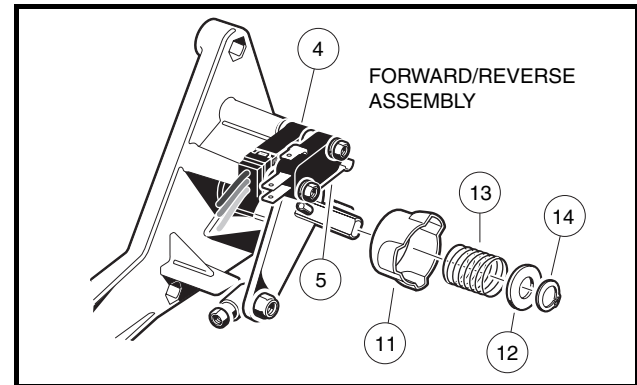

Figure 12-19 Neutral Lockout Cam
2. Connect the black wire to common (COM) terminal, the green wire to the normally open (NO) terminal and the white wire to the normally closed (NC) terminal of the neutral lockout limit switch (**Figure 12-19, Page 12-18**).
2. Remove the external snap ring (14) (**Figure 12-19, Page 12-18**).
3. Remove the plastic washer (12) and the spring (13).
4. Remove the cam (11).
1. Install the cam (11) (**Figure 12-19, Page 12-18**).
2. Install the spring (13) and the plastic washer (12).
3. Install the external snap ring (14) onto the shaft. Be sure the snap ring is installed in the groove on the shaft.